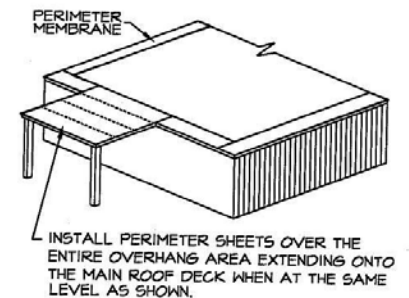

Figure 2
2. **Buildings with overhangs (Figure 2)** – The